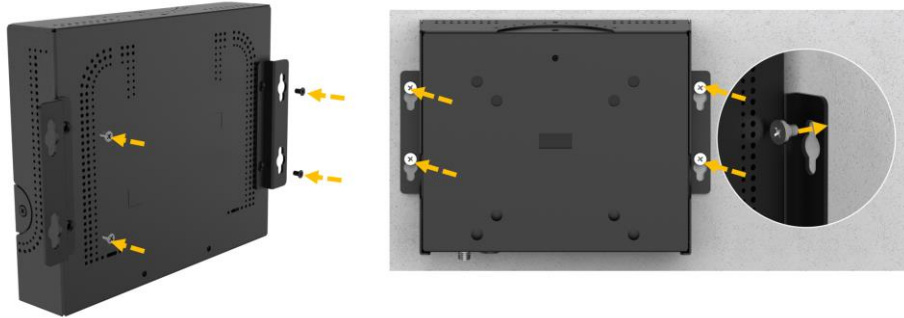

Figure 3-6: Mounting with Wall Mount Brackets
Step 6: Take the two wall mount brackets from the accessories, and use two screws to secure each to the AUPS2-B20 series. Then, use four screws to fix the entire set to the wall and other fixed positions to complete the wall mount installation. **The AUPS2-B20 Series supports a maximum load of 5 kg when installed with the wall mount brackets.** (Figure 3-6).